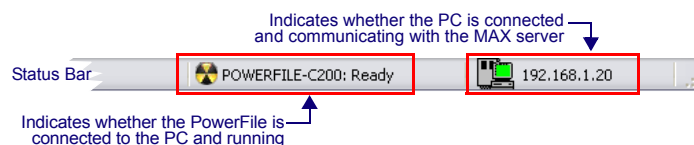

FIG. 3 MAX MDL200 Status Bar
2. The PC and the MAX MDL200 application are pre-configured to allow communication between the PC, the PowerFile and the MAX server. The status bar (at the bottom of the dialog) should indicate that you have successfully connected to the PowerFile and the MAX server (see FIG. 3):